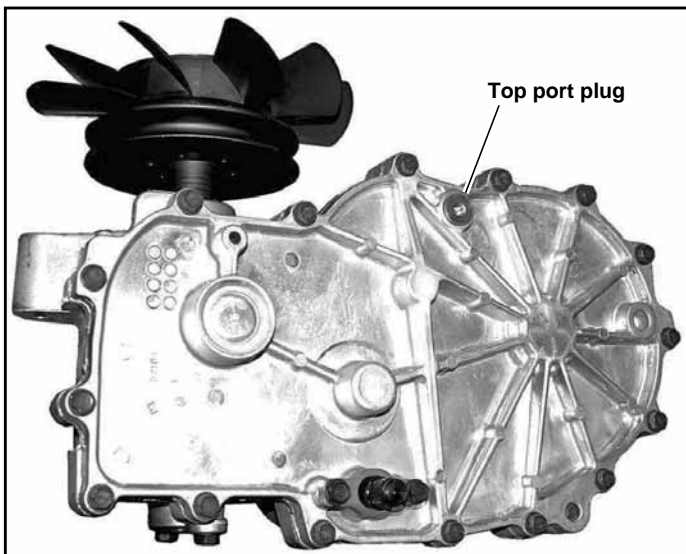

Figure 4-11
9. **IMPORTANT:** Remove the top port plug from both transaxles prior to filling with oil. This will allow the transaxles to vent during oil fill. Figure 4-11
11. Fill with 20W50 motor oil until oil just appears at the bottom of each transaxles top port (approximately 2 qts. per transaxle). Install the top port plug into each transaxle. Torque plugs to 180 in. lbs. Clean up any oil that leaked from the ports. Figure 4-11